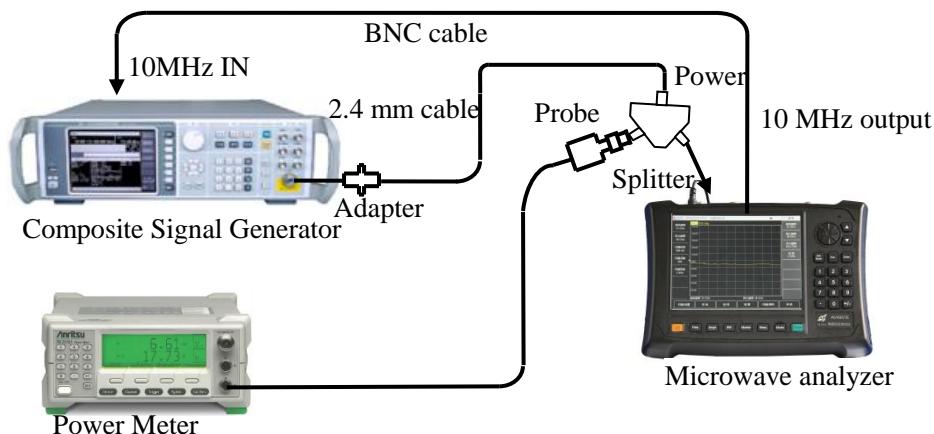

Figure 5-39 Block Diagram of the Test on Overall Absolute Amplitude Precision
Test block diagram as shown in Figure 5-39:
- 2) Connect testing equipment, as shown in Figure 5-39. To be specific, connect the output port of the signal generator to the SUM port of the power divider, and PORT 1 and PORT 2 to the RF input port of the 4957 microwave analyzer and the power probe respectively.